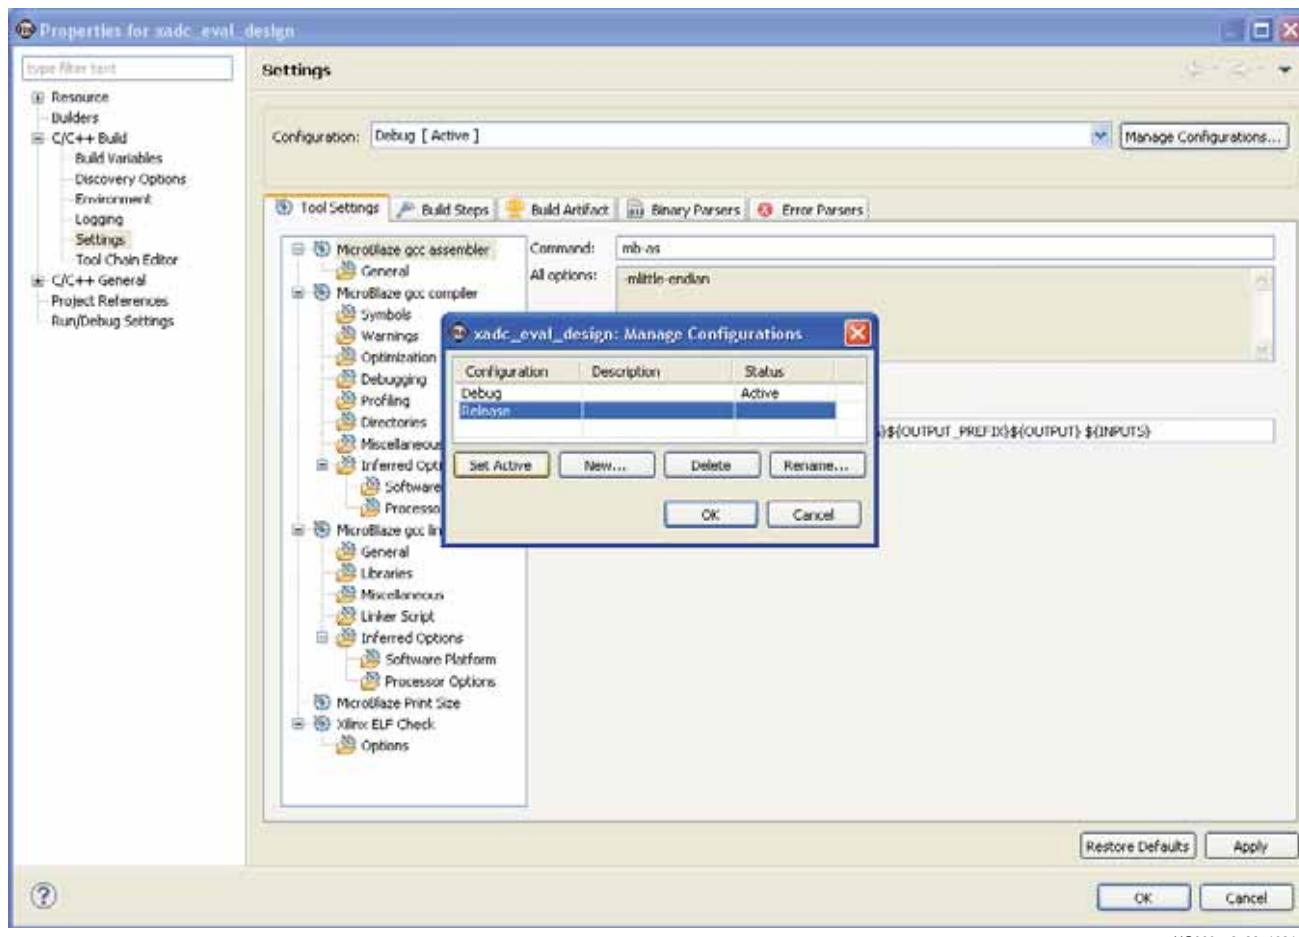

Figure 2-32: Selecting Release Build
13. Click **Manage Configurations** and select **Release**. Click **Set Active**. See Figure 2-32.